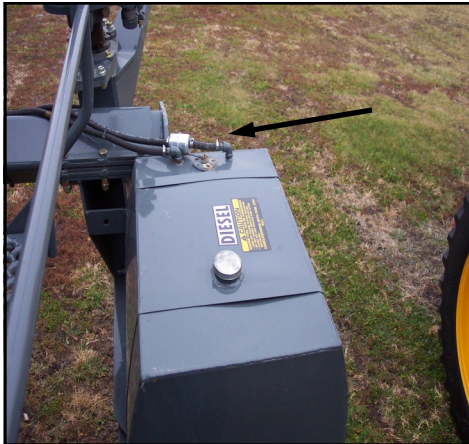

FIG 7.30
**IN-LINE STRAINER** - (fig. 7.30) Each fuel line is fitted with an in-line fuel strainer between the fuel tank and the fuel pump. Note direction of fuel flow arrow when replacing.